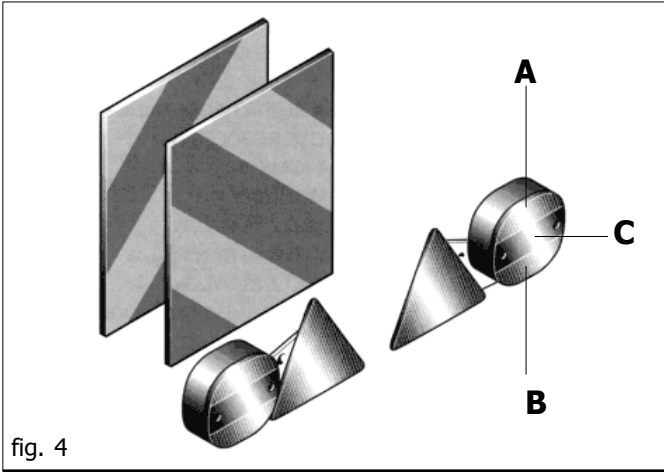

fig. 4
- 35) When the dimensions of carried or partially-carried equipment conceal the tractor's signalling and lighting devices, these must also be installed on the equipment itself, in conformity with regulations of the highway code of the country involved. When in operation make sure that the lighting system is in perfect working order. It is also important to remember that the correct signalling sequence of the headlights includes (Fig. 4):